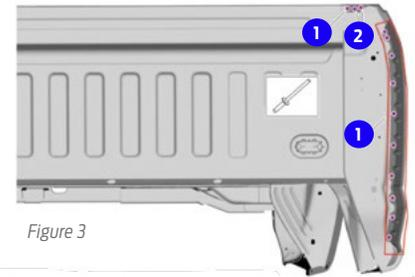

Figure 3
4. On both sides, use the 6.5mm drill bit to drill guide holes, and, using the rivet gun, install blind rivets (part #W702512-S900C). [Figure 3]